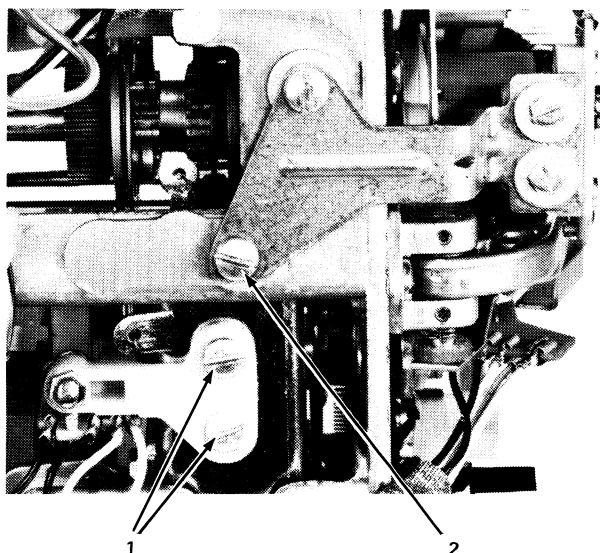

Figure 4-32. Index Magnet Assembly Removal (Bottom of Printer)
4. Tilt the machine up and remove the two screws from the operation feedback contact assembly (No. 1, Figure 4-32).
5. Remove the front index magnet assembly mounting screw (No. 2, Figure 4-32).